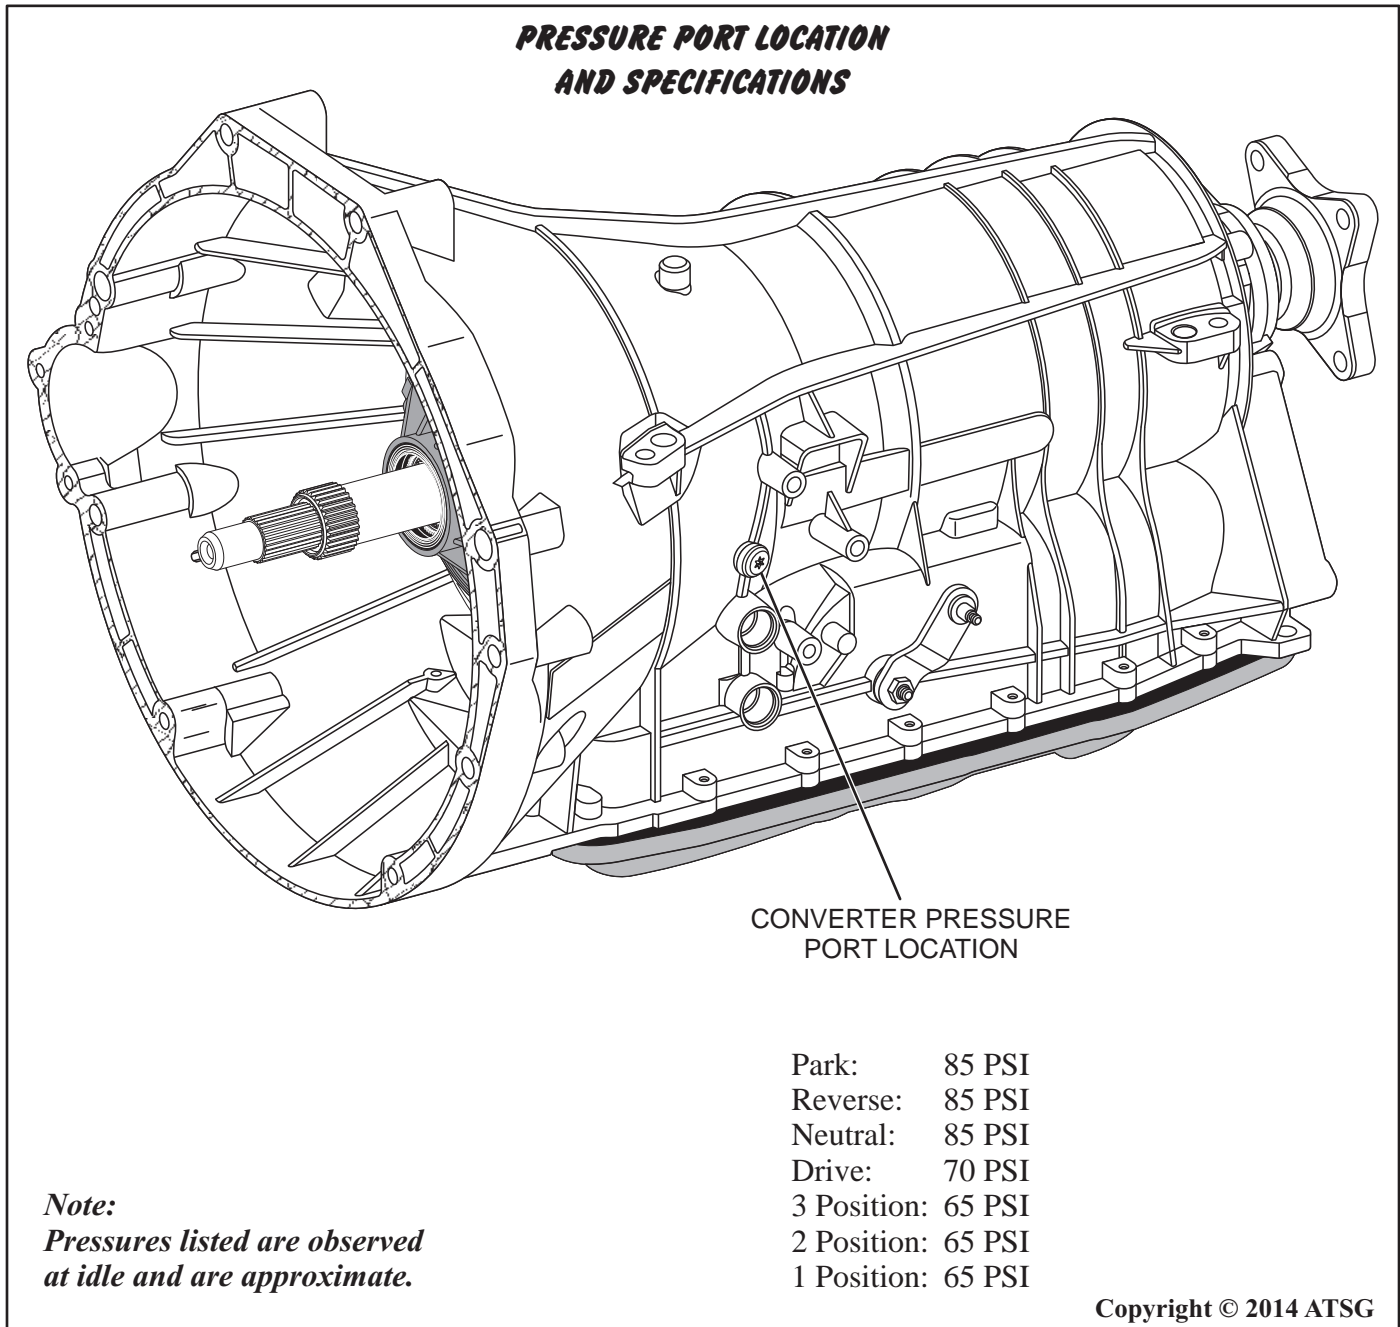

Figure 170
1. There is one pressure port located on this transmission as shown in Figure 170.